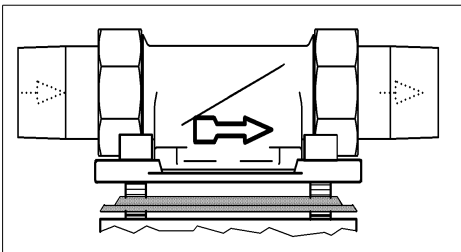

Fig. 1: Built-in rotary flange
- Direction of flow (see Fig.1)